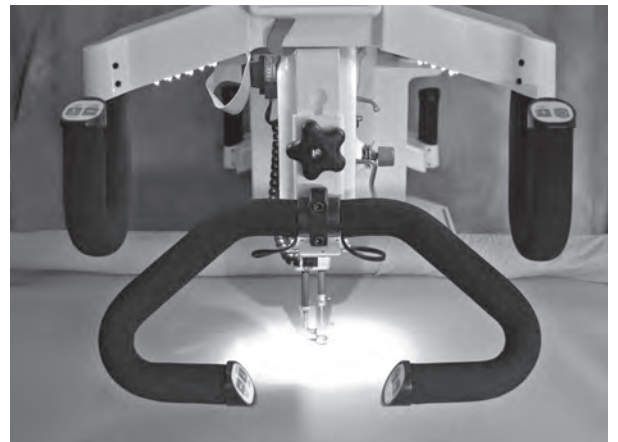

**Figure 8**
2. The horizontal spool pin mounts in the laser stylus guide post on the top of the machine (see **Figure 8**).